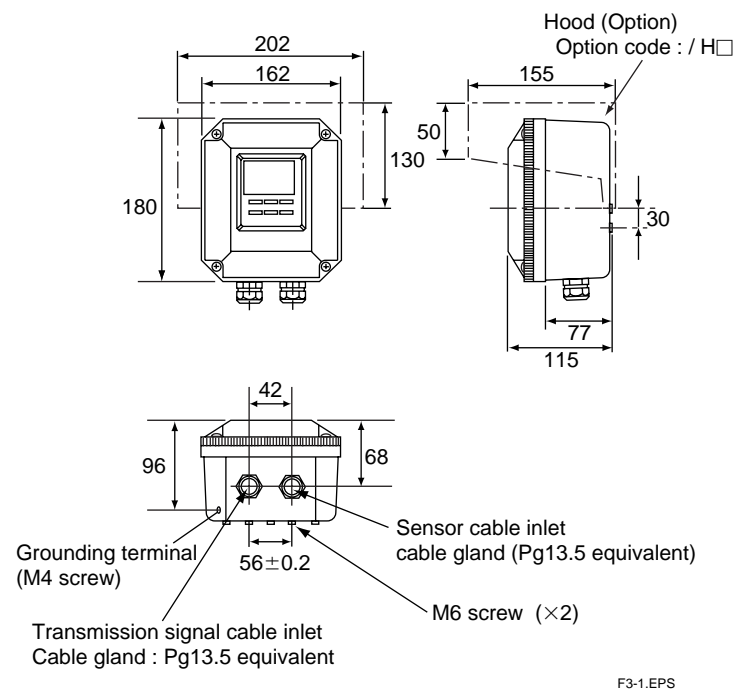

Figure 3-1. Housing dimensions and layout of glands
- Page 3-1, Figure 3.1, some dimensions modified.
- Access is possible to the cable glands (see Fig. 3-1)